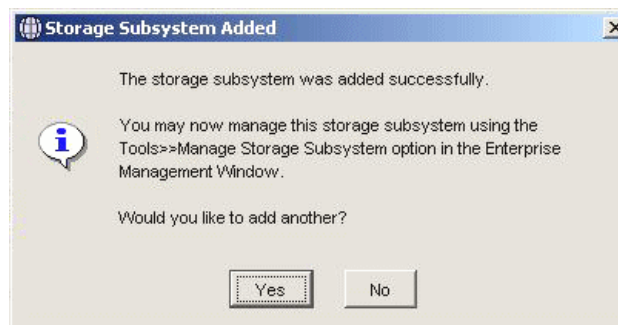

Figure 9-35 Storage Subsystem Added window
4. Enter the controller IP addresses of the storage server and click **Add**. You will see the connecting status. Afterwards, you will see a window similar to Figure 9-35.